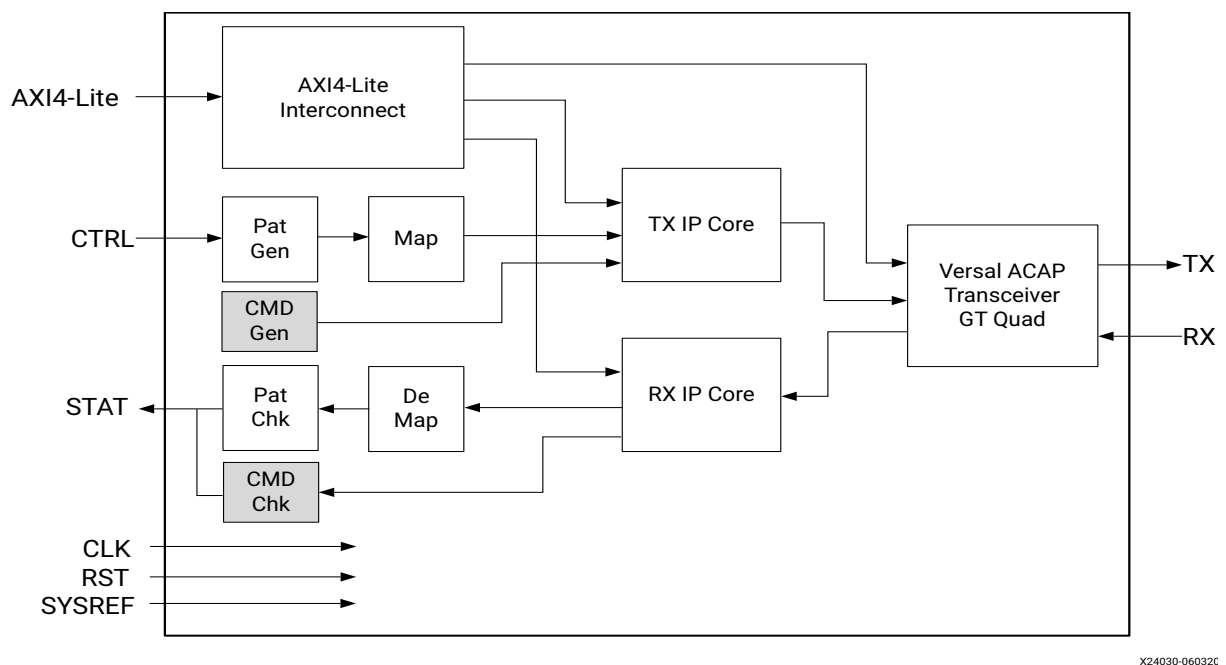

Figure 5-3: Core Example Design for Versal ACAPs
- A Versal ACAP transceiver core (configuration set in the JESD204C core GUI GT Wizard Configuration tab) (Figure 5-3).